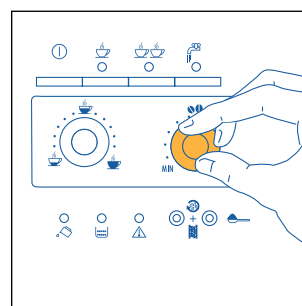
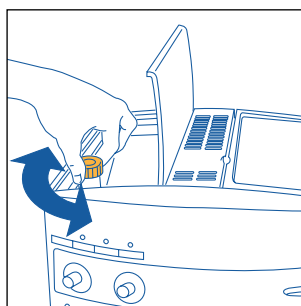

Fig.7
Fig. 17
- 2) Adjust the right-hand knob (Fig. 7) to set the desired taste of the coffee. Turning the knob clockwise increases the quantity of coffee beans that the machine will grind, and thus makes the taste of the coffee stronger. When using the machine for the first time, the correct position of the knob can be found by trial and error. Make sure not to turn it too far clockwise, otherwise the coffee will be delivered too slowly (in drops), above all when preparing two cups of coffee.
NOTE 1 : *If the coffee is delivered a drop at a time or not at all, turn the grinding coarseness regulator (fig. 17) one click clockwise (see para. 6). Turn a click at a time until the coffee is delivered satisfactorily.*
NOTE 2: *If the coffee is delivered too fast and is not creamy enough, turn the right-hand knob (fig. 7) clockwise. Proceed by trial and error to find the correct position of the knob. Make sure not to turn the knob too far clockwise, otherwise the delivery may become too slow (in drops), above all when making two cups of coffee. If, after several coffees, the cream is still not satisfactory, also turn the grinding adjustment knob (Fig. 17) one click clockwise (see para. 6).*
To resolve this problem, re-set the grinding coarseness on the coffee grinder by adjusting the knob (Fig. 17) one click anticlockwise (as described in chap. 6).
Nonetheless, after having made the first coffees, if delivery is too fast or too slow (in drops), the grinding coarseness must be adjusted using the knob (Fig. 17) located inside the bean container. Turning one click (one number) clockwise achieves faster delivery of the coffee (without drops).